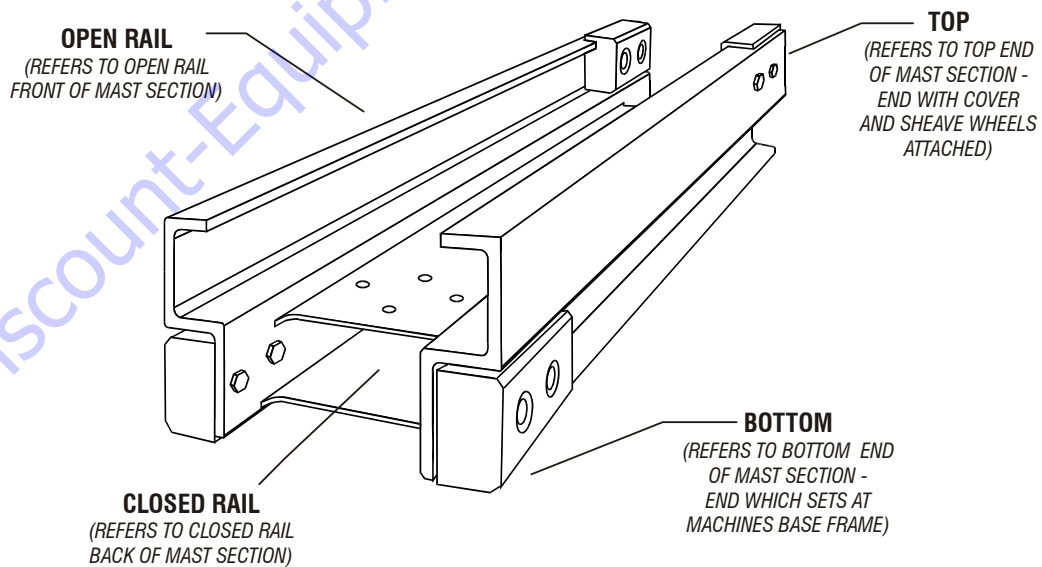

Figure 2-2. Mast Section - Assembly/Disassembly Reference.
the bottom of mast section first, then slide this section out the top of previous section and assemble hardware to the top of mast, (*See Figure 2-2.*). Always install slide pad shims with slide pads inserted into the slide pad channels, (ends of mast sections even). Shim slide pads so that all side to side section movement is eliminated, but section can still slide in mast by hand.
(See Figure 2-2.)
1. Place mast section-1, rail (open) side up (See Figure 2-2.) on a clean, flat surface (preferably a table or work bench capable of supporting the weight of the entire mast assembly). Slide mast out over end of work surface far enough to allow access to the chain anchor attach holes at top of mast.
2. Locate the two (2) single (wide) chain assemblies. Lay out each chain assembly with anchor block end towards mast, and notched end of block down, (be certain floor surface is clean and free of any metal chips or debris which may stick to lubricated chains or lay chains in a clean bucket).
3. Insert the block anchor end (with notched end on bottom) into the top of mast section-1 and secure using two (2) 3/8"-16UNC x 2-1/2" long hex head bolts, flatwashers and nuts for each attach block. Place a flatwasher under bolt head and nut.